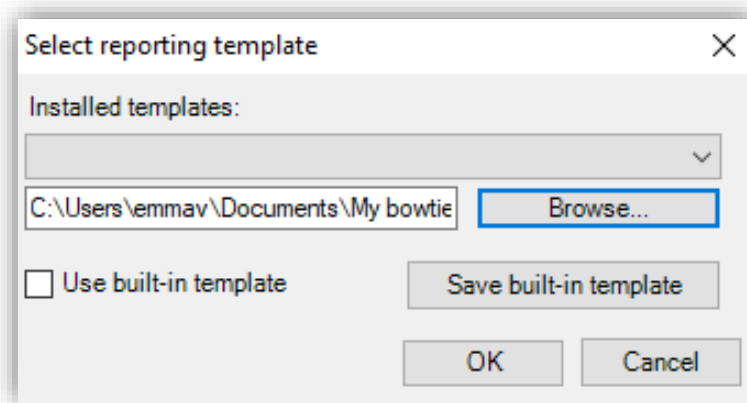

Figure 153 - Selecting reporting template
10. Choose the bowtie(s) you want to include in your report. After you choose a dialog like Figure 153 - Selecting reporting template appears.